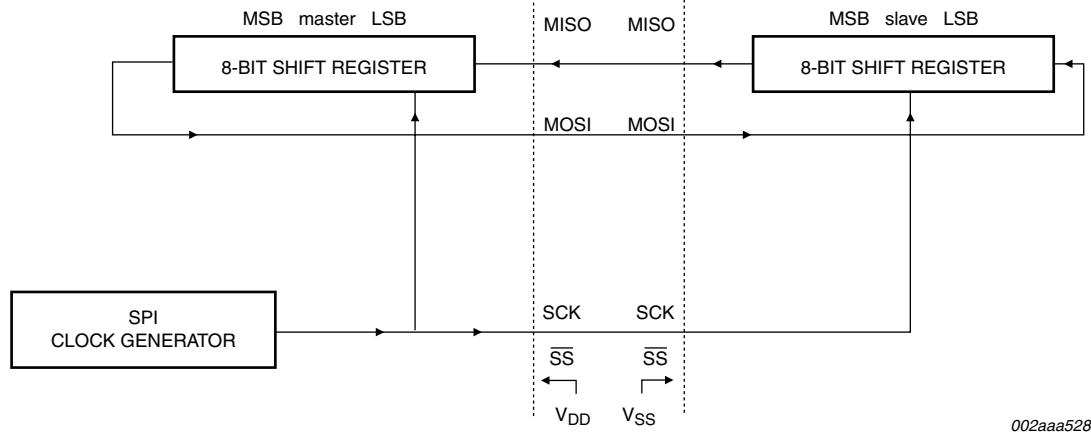

Fig 17. SPI master-slave interconnection
The SPI allows high-speed synchronous data transfer between the P89V51RB2/RC2/RD2 and peripheral devices or between several P89V51RB2/RC2/RD2 devices. Figure 17 shows the correspondence between master and slave SPI devices. The SCK pin is the clock output and input for the master and slave modes, respectively. The SPI clock generator will start following a write to the master devices SPI data register. The written data is then shifted out of the MOSI pin on the master device into the MOSI pin of the slave device. Following a complete transmission of one byte of data, the SPI clock generator is stopped and the SPIF flag is set. An SPI interrupt request will be generated if the SPI Interrupt Enable bit (SPIE) and the Serial Port Interrupt Enable bit (ES) are both set.